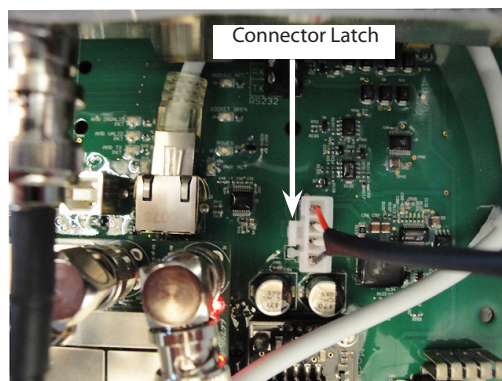

Figure 24: Battery Connector
2. Squeeze the connector latch (Figure 24) on the battery connector on the circuit board and carefully pull on the connector to remove it from the circuit board pin contacts. Do NOT pull on the connector wires. If the connector is stuck, it may need to be gently rocked back and forth while pulling.
5. Carefully install the battery connector onto the circuit board. Insert the connector only far enough so that the connector latch engages. Verify that proper connector polarity is observed (see "Figure 24: Battery Connector" on page 20).